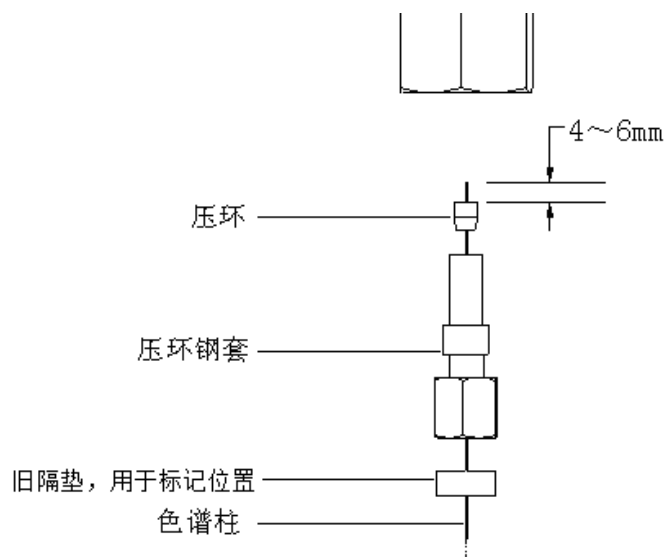

Figure 2-7 Column installation at the injection port end
1. The position markers (such as old septum), pressure ring ferrule and the pressure ring pass through the free end of the column (as shown in Figure 2-7) in order. The tapered end of the ring must face the its ferrule.